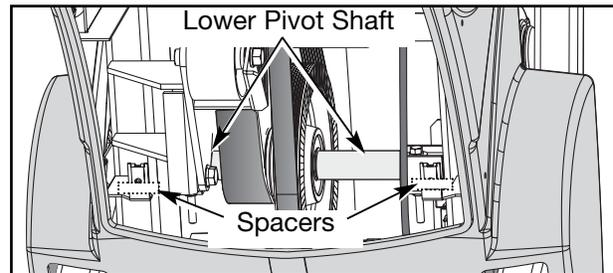

Figure 3
- B. Locate the spacers under the lower pivot shaft. Visually check that the spacers are in place and in good condition. If the spacers are visibly cracked or missing, it must be replaced immediately by a qualified service technician. See Figure 3.